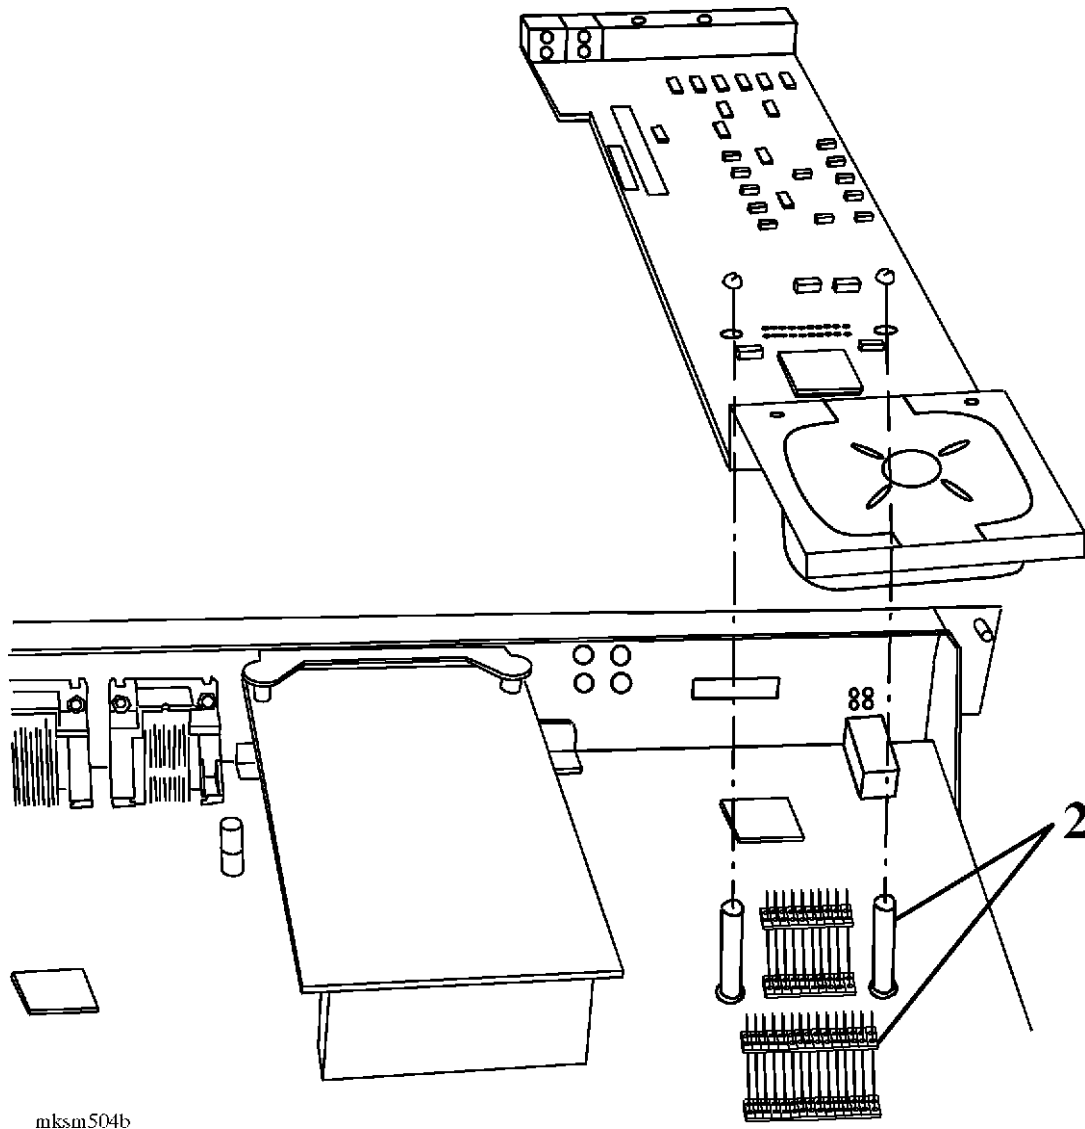

Figure 7-16 Audio Card Removal and Replacement
Removal: Refer to Figure 7-16
2. Align the card over the two standoffs as shown in Figure 7-16 Carefully press the core I/O pins into the rear connector on the audio card.